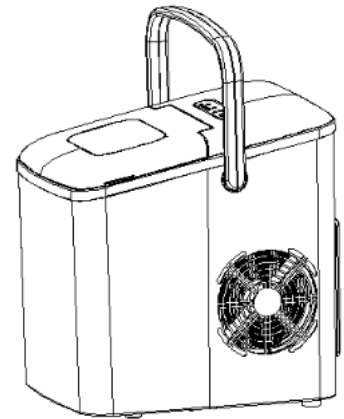

Fig.3
4) Hold the center of the handle and lift it upwards (see Fig.3), check, and make sure that no abnormal condition can be found.